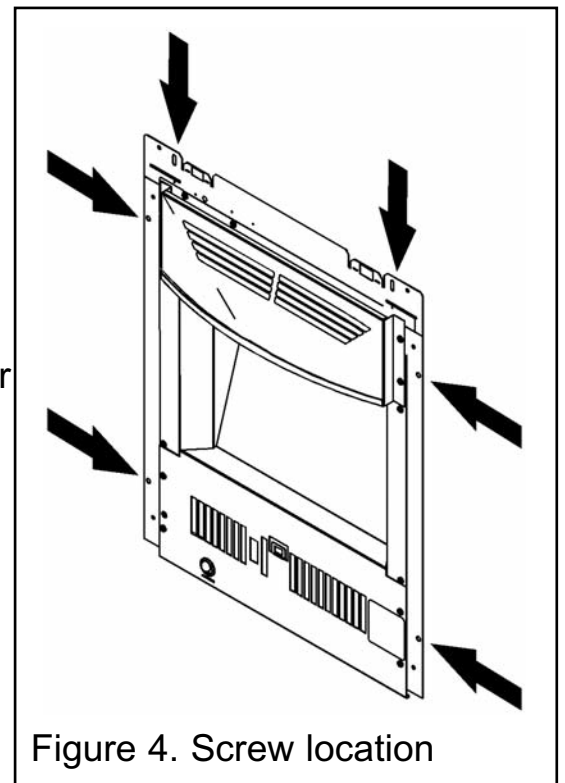

Figure 4. Screw location
2. There are two slotted holes in the top of the heater and four holes in the side flanges (See figure 4). We recommend the use of two upper holes and two lower holes. Mark through the required holes so that their position is clear when the heater is removed.